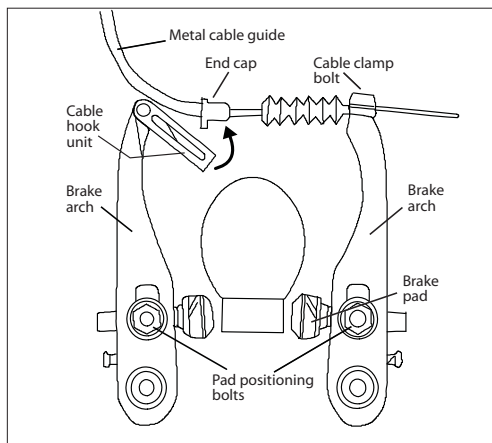

Fig. 20: Assembly of V-brake.
- V-brake (Fig. 20)
V-Brakes (Fig. 20):
- For V-brake equipped bikes, see Fig. 20.